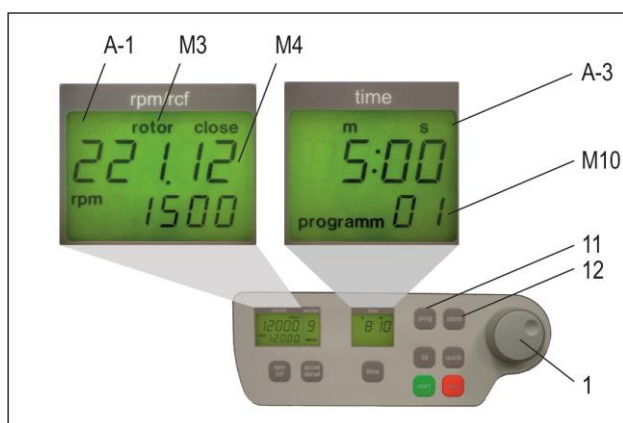

Figure 26
Put the desired rotor into the centrifuge. By pressing the key "prog" (11) in the display "time" (A-3) appears the word "program" (see Figure 26). With the adjustable knob (1) choose the desired program number.
If a program number is already occupied, in the display "rpm/rcf" (A-1), the words "rotor" (M3) and "22x.xx" (M4) will appear (see Figure 26). Free program numbers will appear as 0.